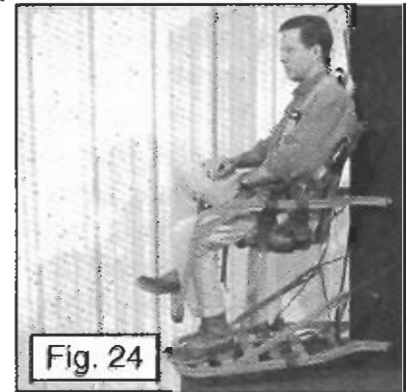

Fig. 24
C. When hunting with the bar folded down, it can serve as an additional foot rest (see **Figure 24**). When used in this manner, if both feet are supported it is extremely important that the tether between the platform and seat is securely tied. (With no weight on the platform is could be accidentally bumped and disengaged).